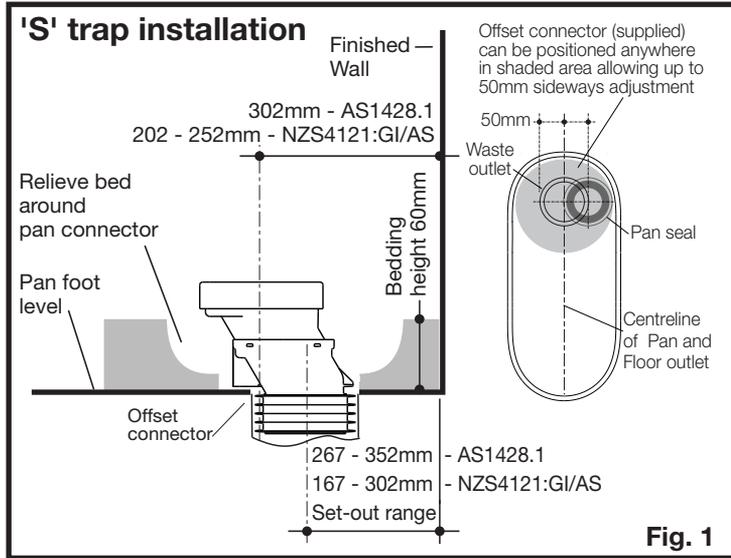
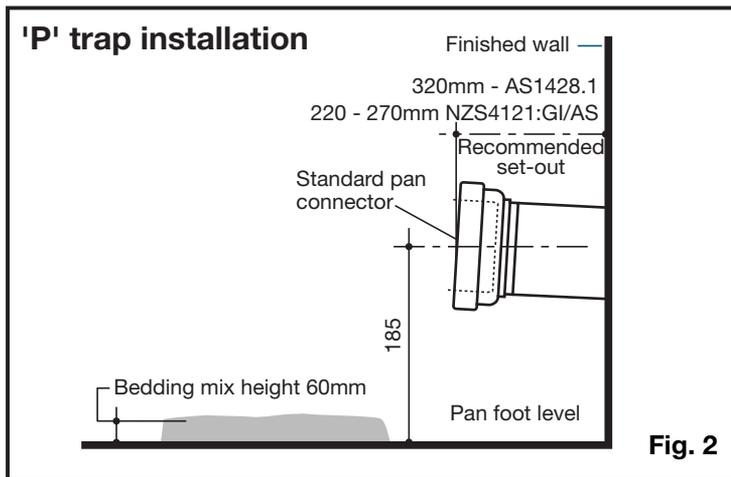

Fig. 1
Fig. 2
The soil pipe and pan collar should be accurately fixed into position as recommended for Caroma cisterns, as detailed in Figure 1 and Figure 2. Refer to website for further details: [www.caroma.com.au](http://www.caroma.com.au) or [www.caroma.co.nz](http://www.caroma.co.nz)
- 4- Prepare bedding sand cement mixture 3:1 to depth of 60mm as detailed in Fig. 1 or Fig. 2. Note: Do not fill the foot of the pan with bedding mix or include lime or fast drying cement into the mix, these may cause cracking in the foot of the pan.